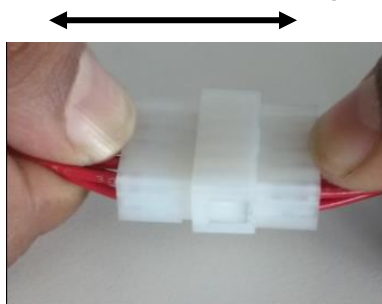
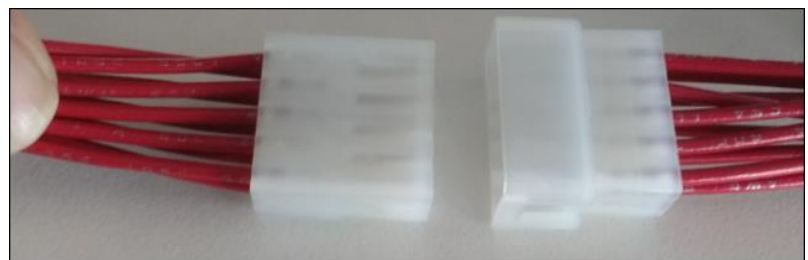

Fig.16
Fig.16a
1. Hold the Plug and receptacle assembly to disengage and pull the assembly as Shown in Fig.16 and Fig.16a.